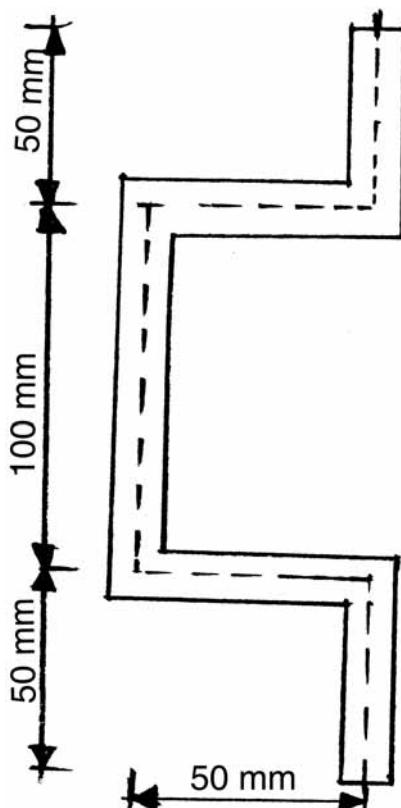

Fig. 1
b) Determine the shear centre of the hat-type thin walled section shown in Fig. 1.